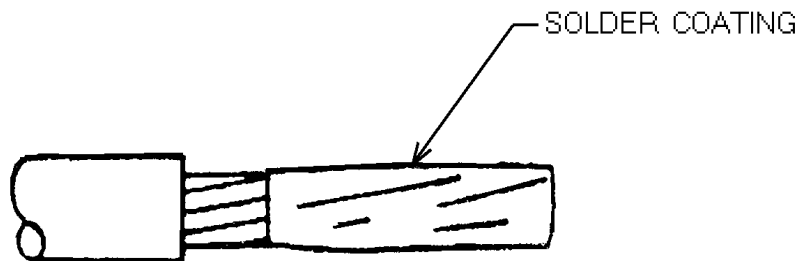

Figure 5-8. Pretinned Conductor.
10. Pretin all primary wires (see ES-61408) (Figure 5-8).